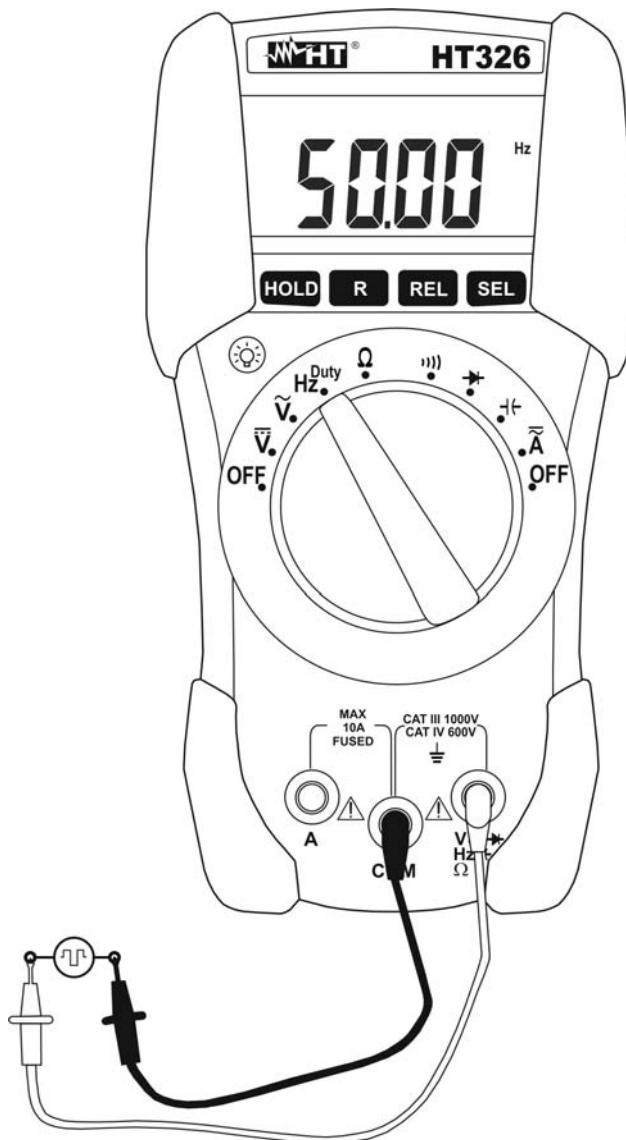

Fig. 9: Using the instrument for frequency measurement
3. Connect the test leads to the circuit under test (see Fig. 9). The frequency value will be displayed
5. Connect the test leads to the circuit under test (see Fig. 9). The percentage value of duty cycle will be displayed